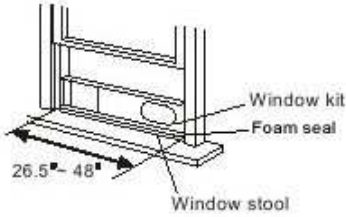

Fig.5
2. Adjust the length of the slider kit according to the width of window. Place slider kit on top of foam seal. (Fig.5)